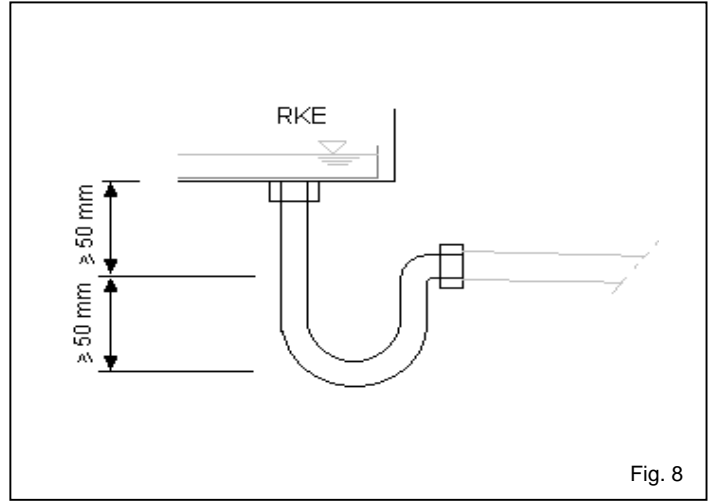

Fig. 8
- The trap must be designed as shown on the **figure 8**